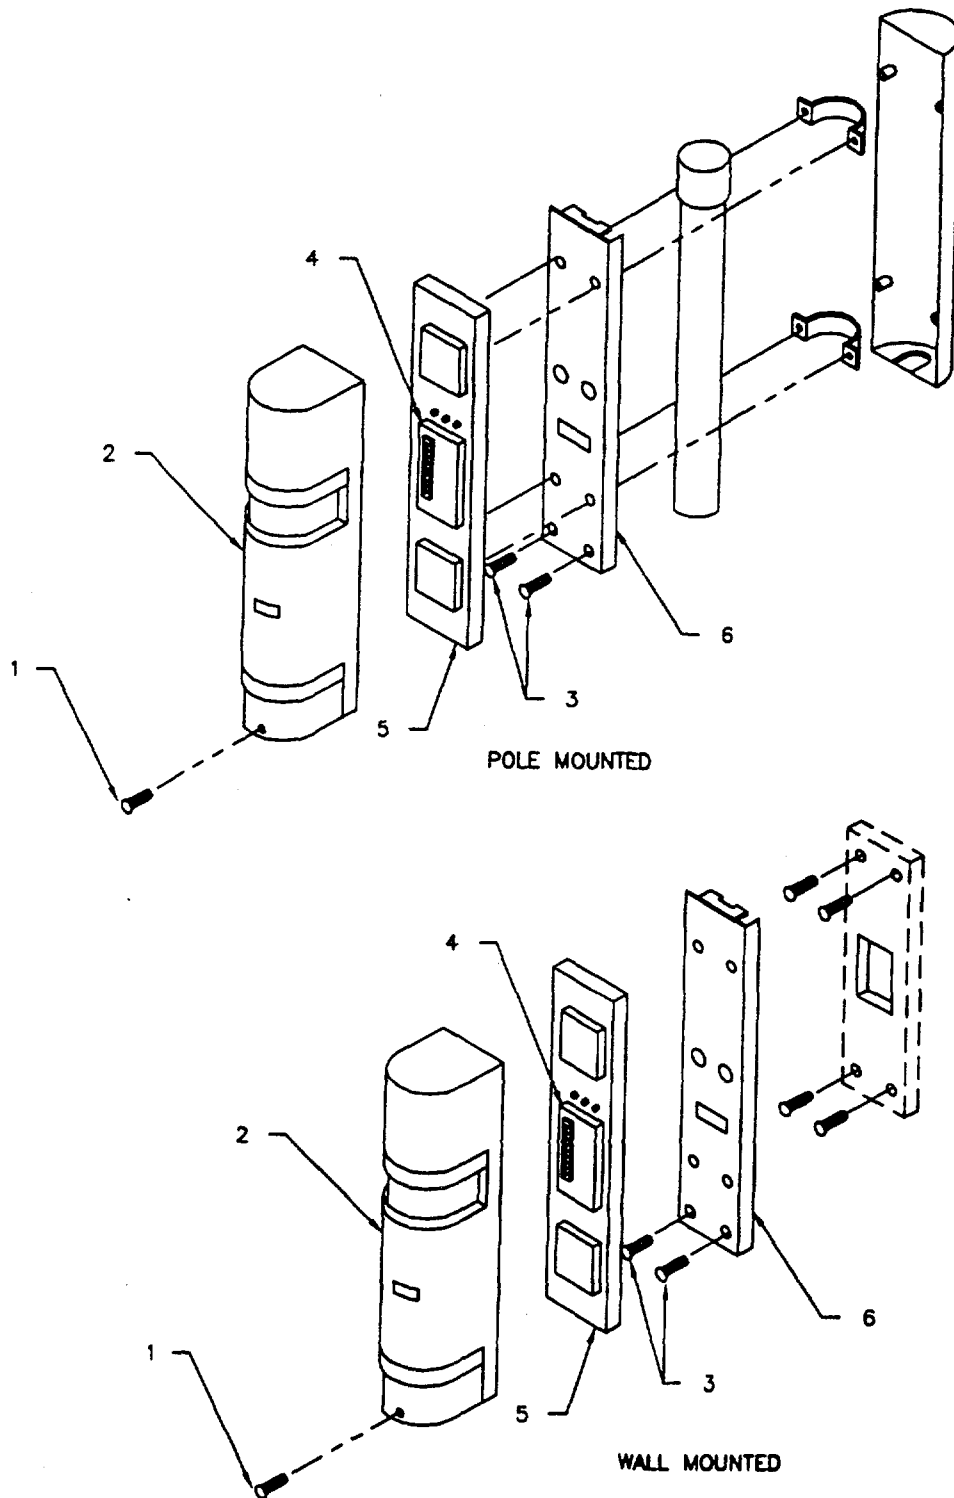

Figure 3-63. Removal and Replacement of Exterior Infrared Perimeter Sensor Assembly
**3-115. REPLACE EXTERIOR INFRARED PERIMETER SENSOR. (Figure 3-63).**